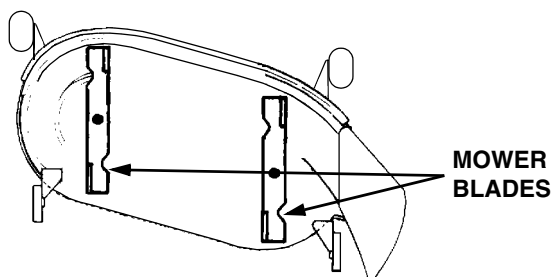

Figure 31
- Position the mower blades so the ends of each blade point to the front and the rear of the tractor (See Figure 31).